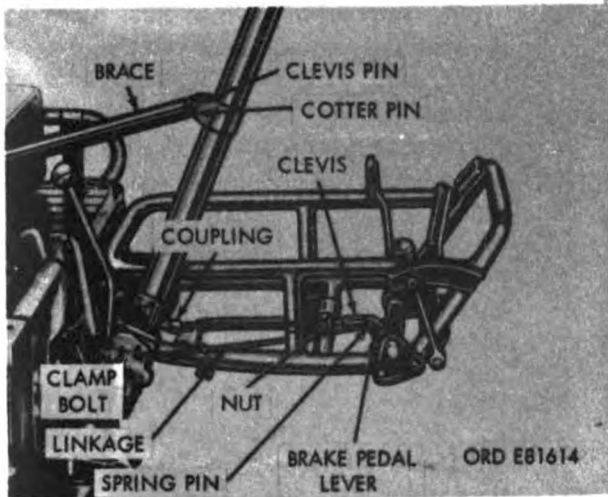

Figure 2-81. Footbrake front control flexible linkage.
## 2-57. Footbrake Flexible Linkage (Figure 2-81)
- (1) *Removal.* Apply handbrake. Disconnect front footbrake flexible linkage from quick-disconnect coupling (fig. 2-81) just forward of front end of platform, and release handbrake. Drive out spring roll pin securing clevis on front end of linkage to brake pedal lever.
- (2) *Installation.* Position clevis (fig. 2-81) on front end of front flexible linkage on brake pedal lever and install  $1/4 \times 5/8$  spring roll pin. Apply handbrake, install ball on rear end of front flexible linkage in coupling on front end of rear flexible linkage, and release handbrake.
- (3) *Adjustment.* The total length of front and rear flexible linkages when installed, must be so adjusted that when brake lever and brake pedal are in extreme rear position
there is no slack in linkages. Adjustment may be made by applying hex nut (fig. 2-81) on front linkage and turning threaded end of cable in clevis, by changing the hole used in the clevis on rear end of rear linkage, or by both.